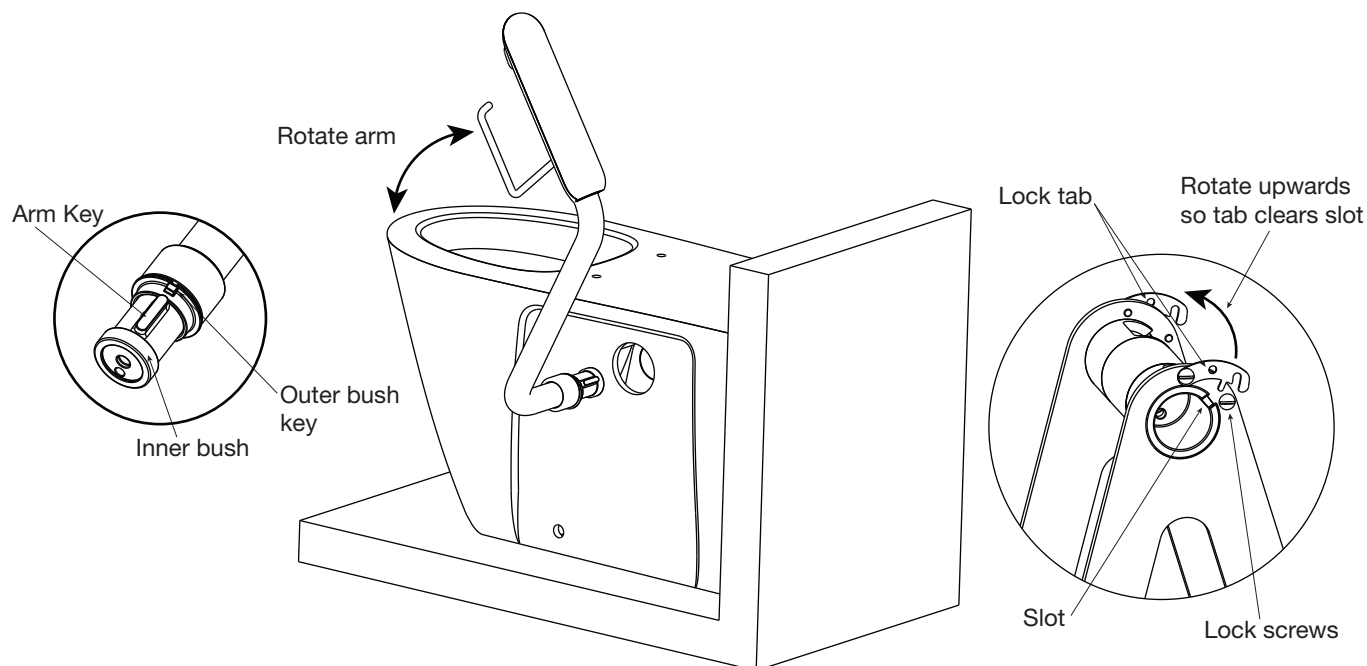

Fig. 5
5. Rotate lock tabs upwards so tab clears slot. Install inner and outer bushes ensuring outer bush key is aligned to arm key as shown above in **Fig. 5**. Install arms by tilting back and aligning key into slot. Ensure they rotate up and down and locking mechanism functions. Arms should lock in upper and lower position, button releases lock. Now rotate lock tab down into closed position.